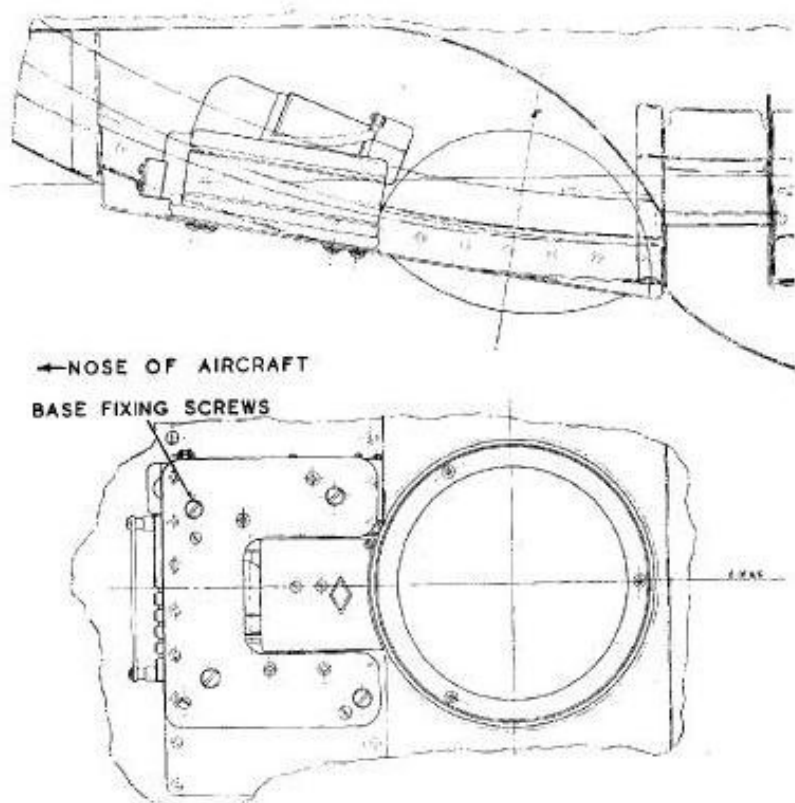

Fig. 6. Installation diagram
14. A view of an installed lamp is shown in fig. 6, four nuts on the base plate accept the four 8-32 screws which secure the lamp to the aircraft. It should be noted that the housing of the lamp is not enclosed and when operated will rotate within the wing aperture, care must therefore be taken to ensure that connections to the lamp terminal block and other cables in the vicinity of the lamp cannot foul the housing.